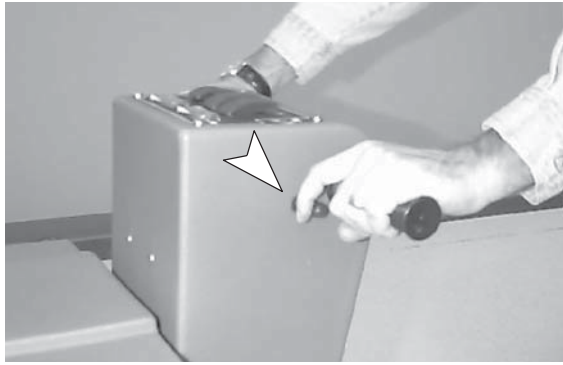

FIG. 16
6. To operate machine in reverse, simply pull reverse trigger, one speed (Figure 16).